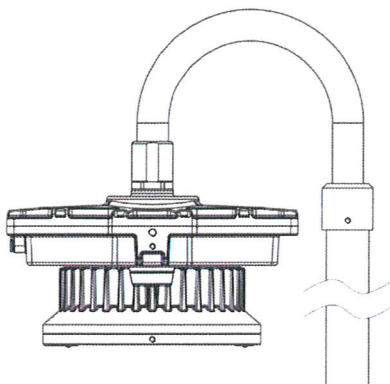

Figure 5
- ☞ Tighten tube locking setscrew to conduit, 1.0 N-m. (Figures 5 and 6)